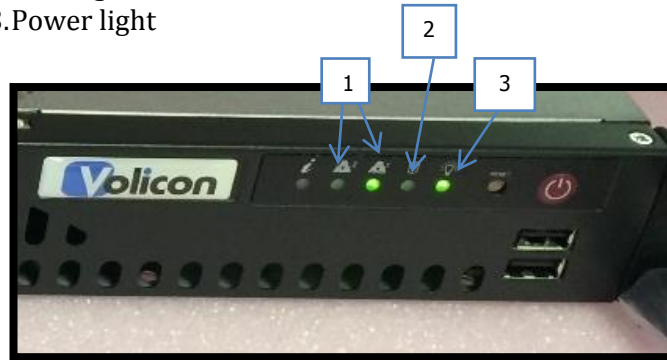

Figure 6.2. Front Right Face of the Scout - LED indicators.
- b. Figure 6.2 shows a close up of the Scout's LED indicators: